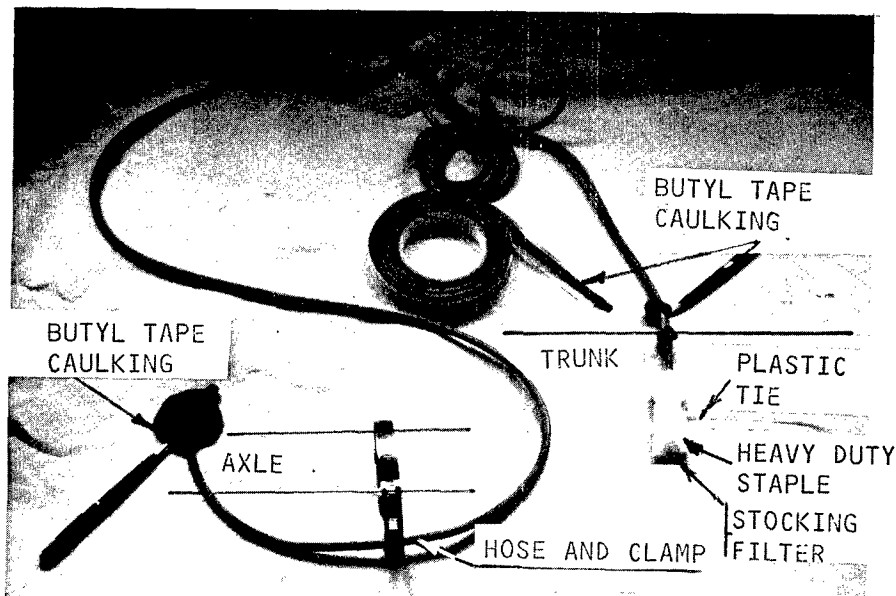

Figure 4
(1) Axle Vents: A number of different axle vent types are used. The ideal vent filter is to attach a hose to the vent and route it into the trunk of the vehicle. A stocking filter, or gas line filter, secured to the end of the hose with a plastic tie or hose clamp, completes the system, Figs 4 and 5. The filter stocking is formed by wrapping the hose end with a small piece of Filtrete filter media (Reference Appendix No. 4) and closing the end with a heavy duty office staple. Clamp the hose to the axle and provide sufficient hose length for axle jounce. Insure that the axle end of the hose is secured to the vent or properly inserted in the vent hole, or cover, and sealed. Secure the filter end of the hose in a protected area of the trunk. Locally wrapping the axle vent with the filter material, in lieu of the above hose method, may present some difficulties with mud clogging during and after rains.